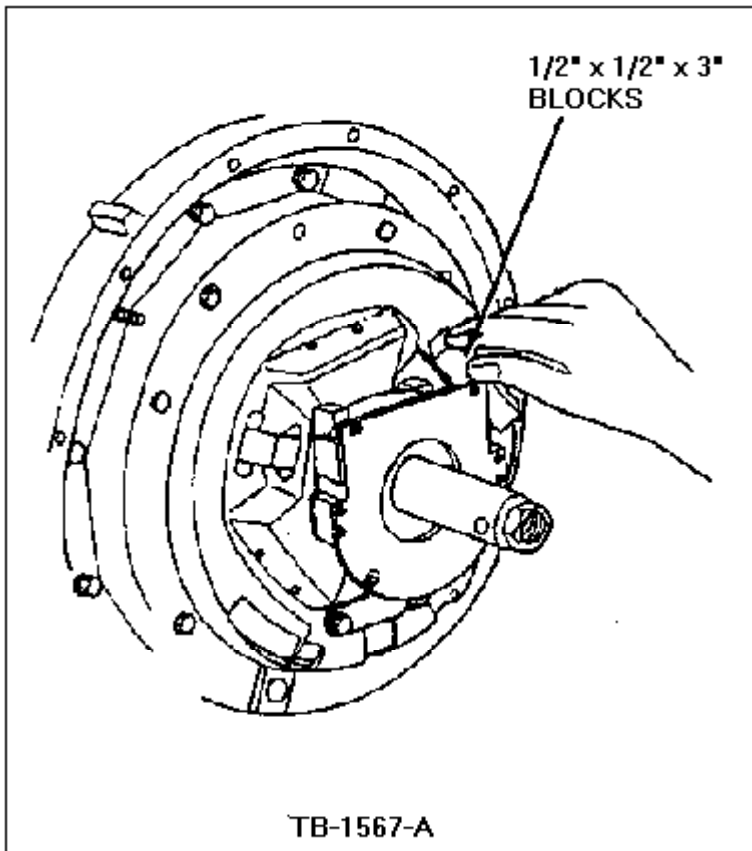

Figure 8 - Article 90-5-17
1. Block the release bearing with wood blocks (1/2" x 1/2" x 3" for two-plate and 1/2" x 1 3/4" x 3" for single plate) using the tool provided in Spicer Clutch Service Kit CSK1 or equivalent tool as shown in Figure 8.